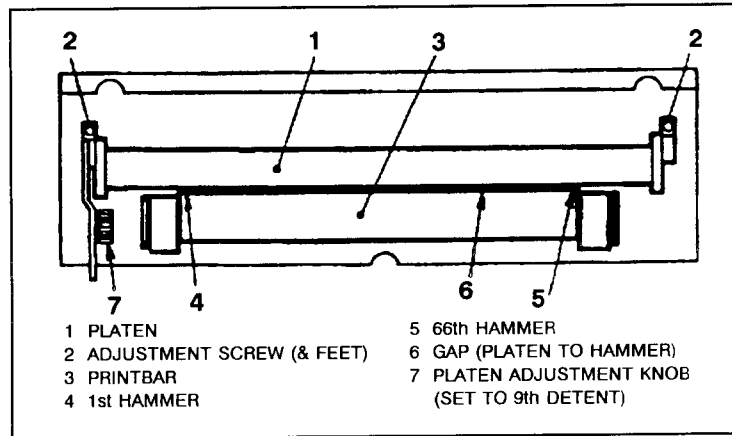

Figure 5-7. Platen Gap Adjustment
- c. Using a 3mm hex driver, loosen the two screws which secure the platen mounting feet to the print mechanism (see Figure 5-7, item 2).
end of the platen, one under hammer #1 (first hammer) and one under hammer #66 (last hammer) as shown in Figure 5-7, items 4 & 5. Grasp the platen and the print bar with one hand, squeezing them firmly together so that the platen is held snug against the gauges. Tighten the screws.